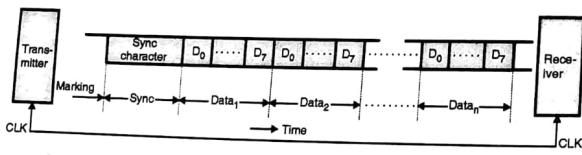

Fig. 7.3.2 : Synchronous data format
- Packet of data is of size 'n'. The data bytes in a block are transferred one after the other. As shown in Fig. 7.3.2. D0 to Dn data bits of data1, data2, ..., datan is transferred serially.
- The sync character may be, any digital bit pattern which is used for transmitter and receiver. Refer Fig. 7.3.2.